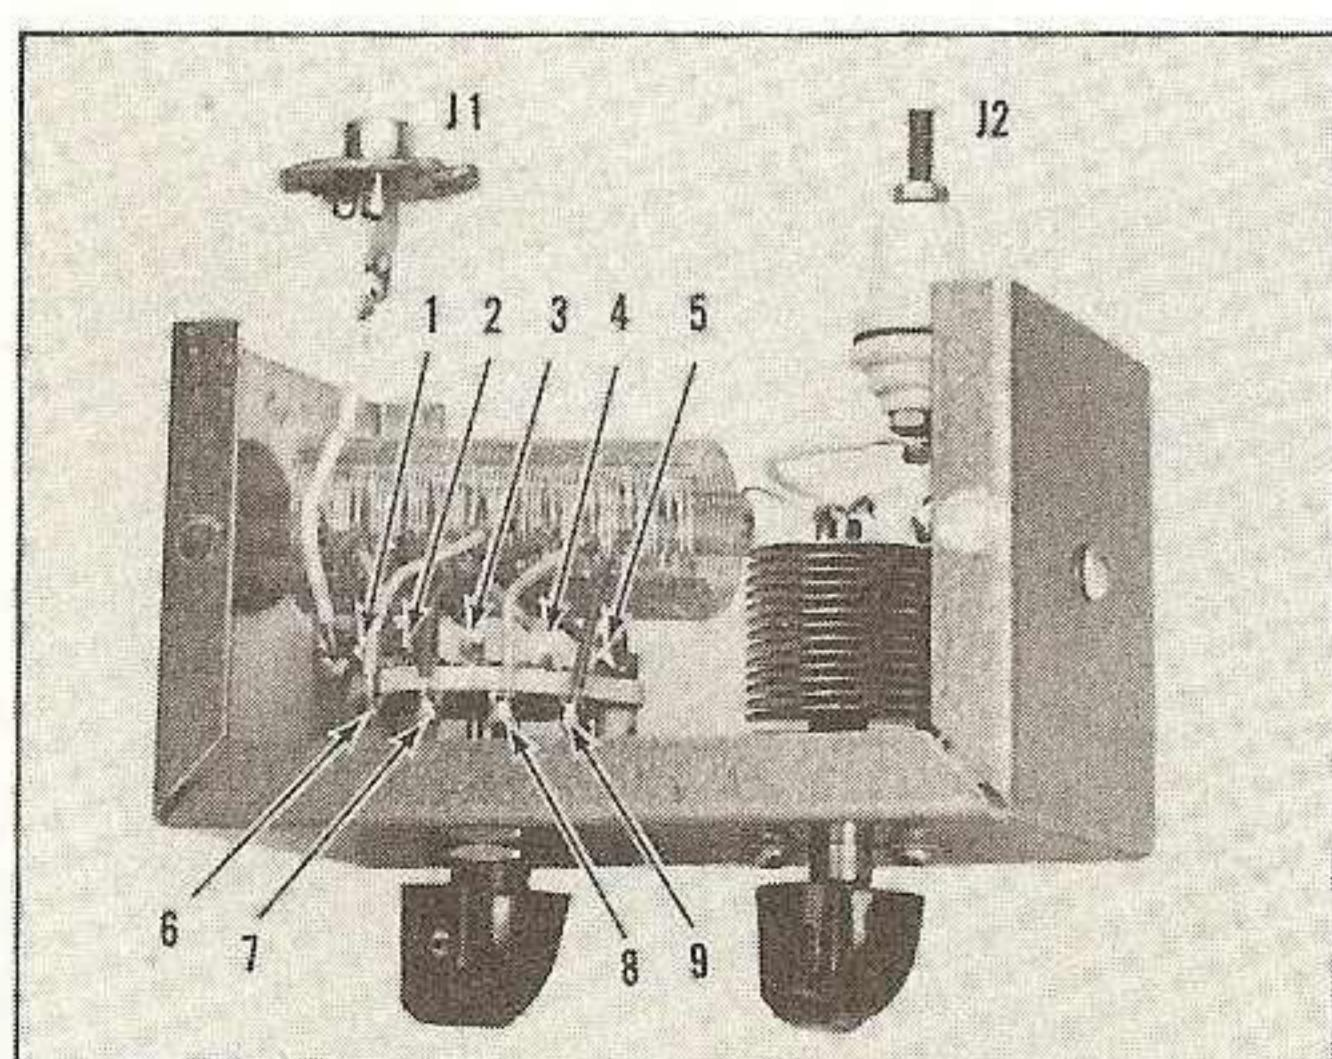

Fig. 22 Switch taps of coil L1 are seen in this view. The input and output connectors (J1 and J2) attach to the other section of the aluminum box.
- () Prepare coil (L1). It is necessary to place a tap at every seventh turn on the coil. To make the taps without shorting adjacent turns, push down the wire turn on each side of the turn to be tapped, as shown in Figure 22. Do this to the turns on *each side* of every seventh turn, starting from one end of the coil.
- () Looking at the bottom of the switch, connect the lead from the left end of the coil (not the tap) to the most counterclockwise terminal on the rear of the switch (see Figure 22).